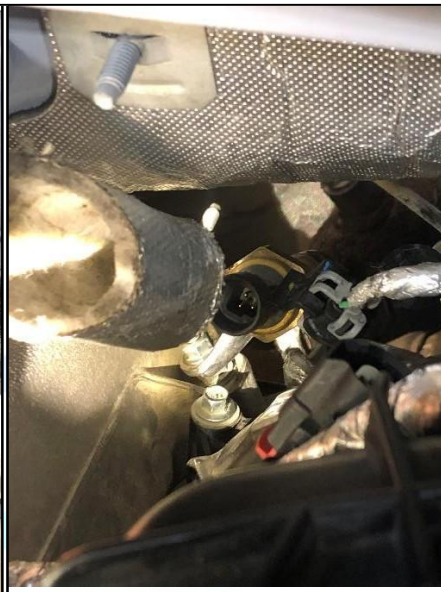

Figure 2: Insulation Removal
- Disconnect all electrical connections and wires from the intake manifold. Additionally, removing the insulation from the exhaust pressure sensor (see Figure 2) and its wire clip will improve access to the intake fasteners.